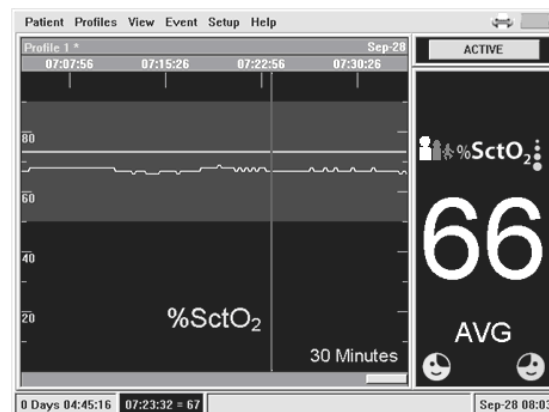

Figure 35: Horizontal Position of Event Mark
- 2 Press the rotary control knob once more to add a horizontal line to the trace (see Figure 35, page 65).